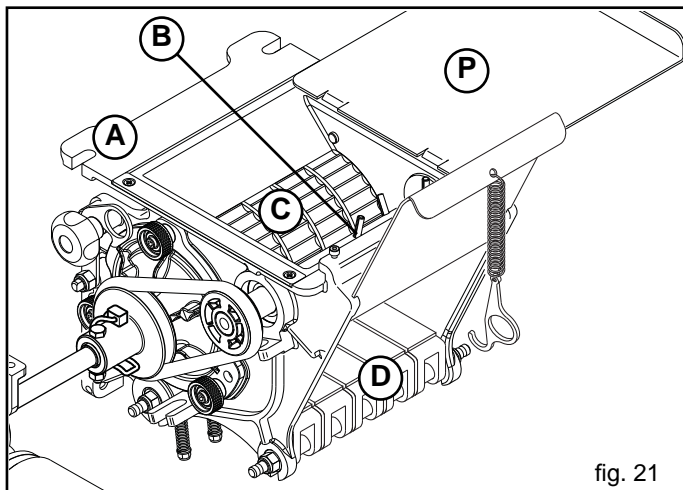

fig. 21
The doser (Fig. 21) the most important part for distribution, is located underneath the seed hopper.
- B) **Hopper with product:** use the movable panel (P, Fig. 21) to exclude feeding from the hopper to the doser. Then empty the dosing chamber.
IMPORTANT: before starting seeding, open the panel (P, Fig. 21) to feed the doser.